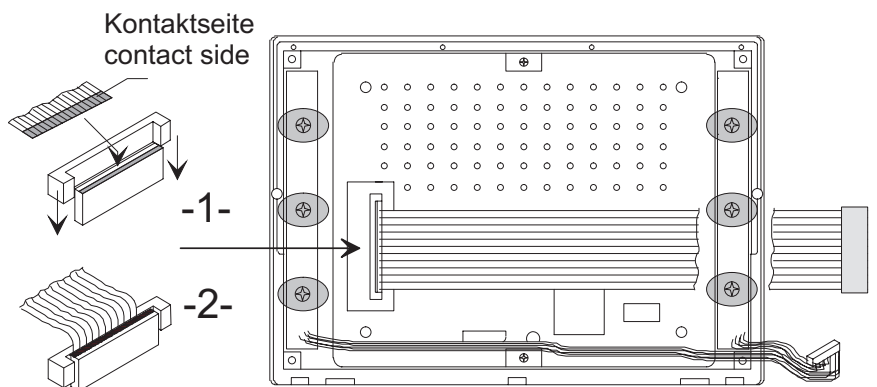

Fig 8-9: Connecting the display
13. Connect flat cable to display unit. Avoid damage of the flat cable because of canting. (fig. 8-9)